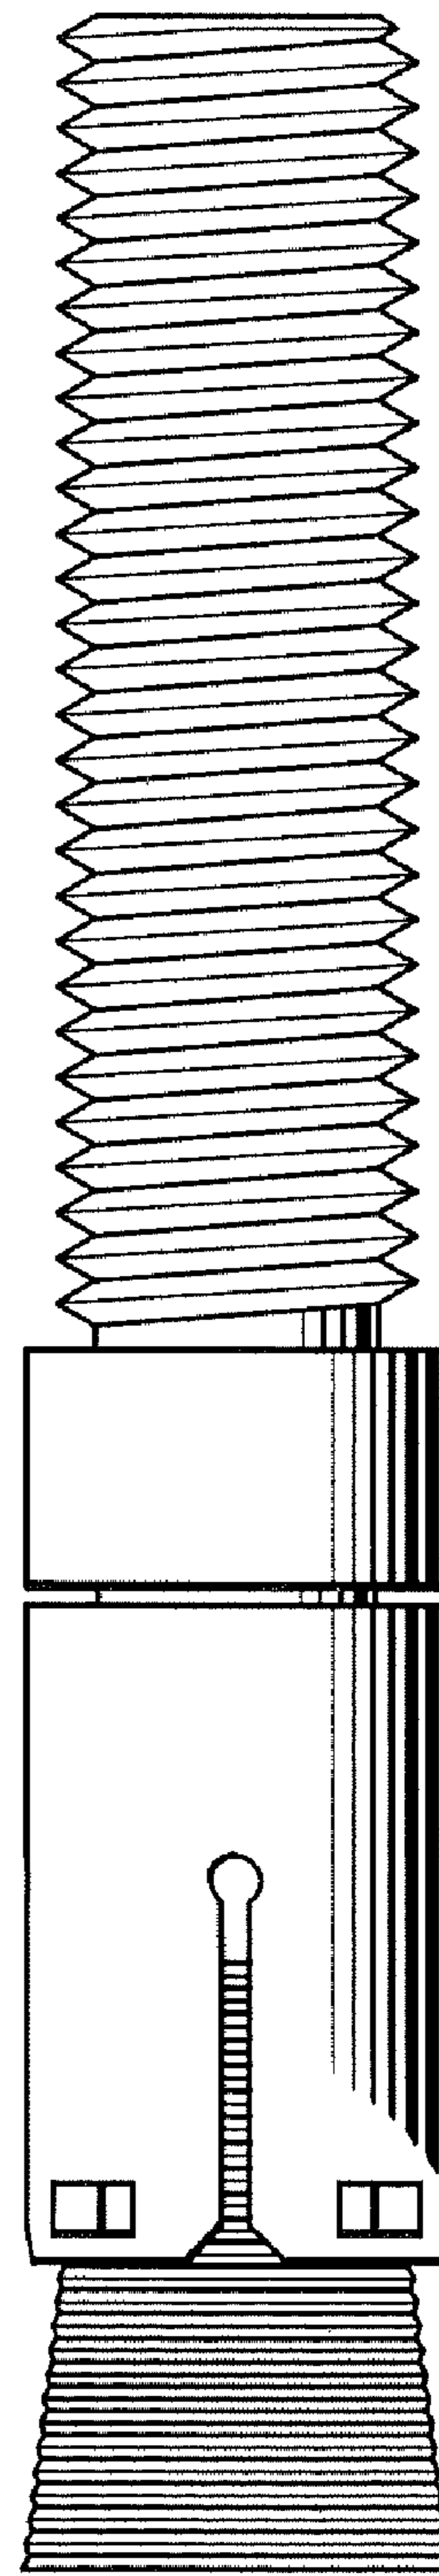

Fig. 20
- FIG. 20 is a side view of the stud having latitudinal ridges;